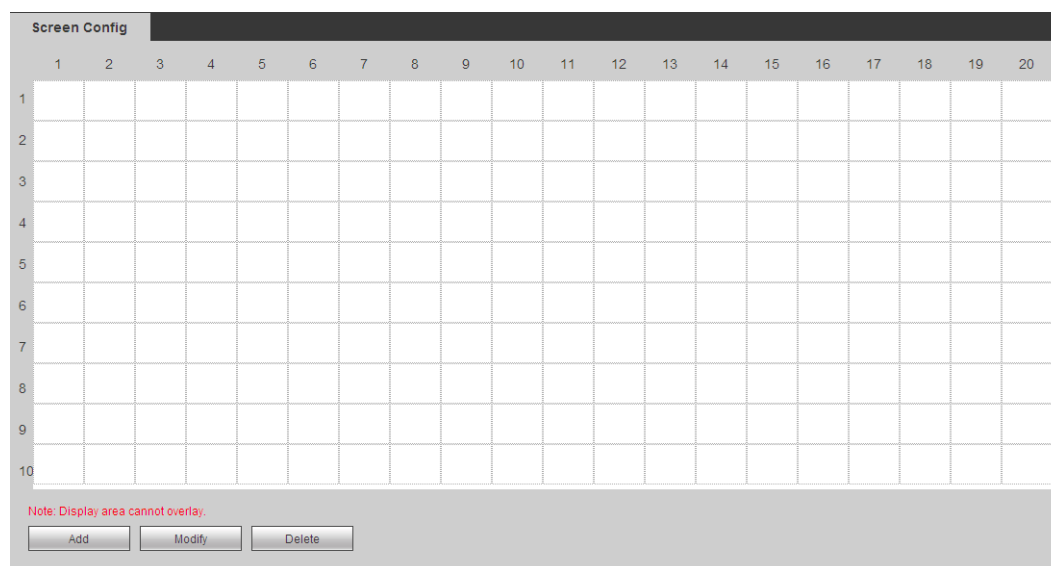

Figure 4- 2
Step 1. Select settings>display management>TV wall. See Figure 4- 2.
Step 2. Click Add. See Figure 4- 3.